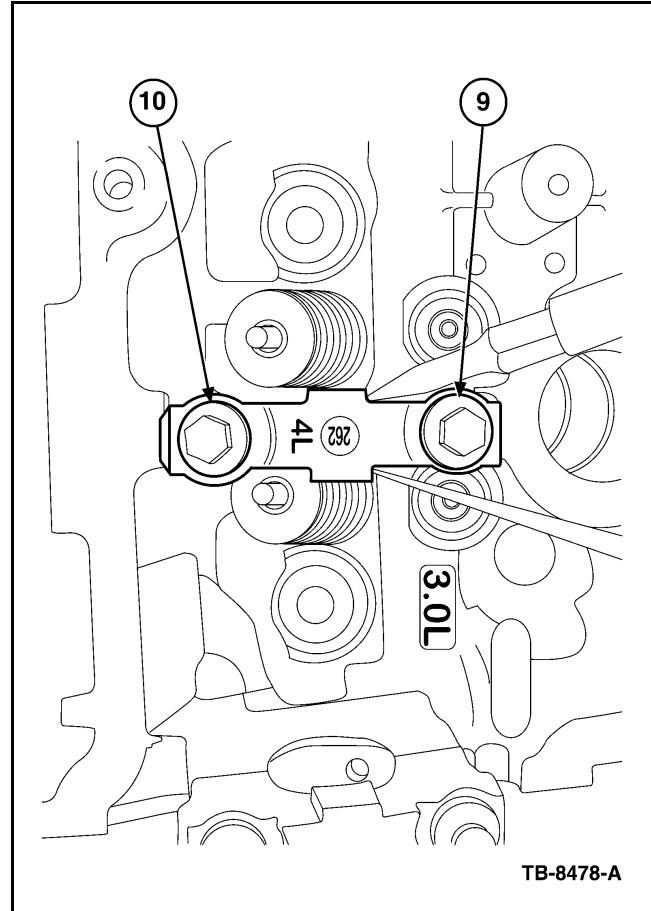

Figure 3 - Article 08-3-10
5. Using a screw driver positioned on each side of the top of cam cap number 4L (Figure 3), apply hand pressure and shift cam cap number 4L toward the exhaust side of the cylinder head.
6. While holding cam cap number 4L in the shifted position, torque the fastener number 9 (inboard) first, to 72 lb-in (8 N•m) then torque fastener number 10. (Figure 3)